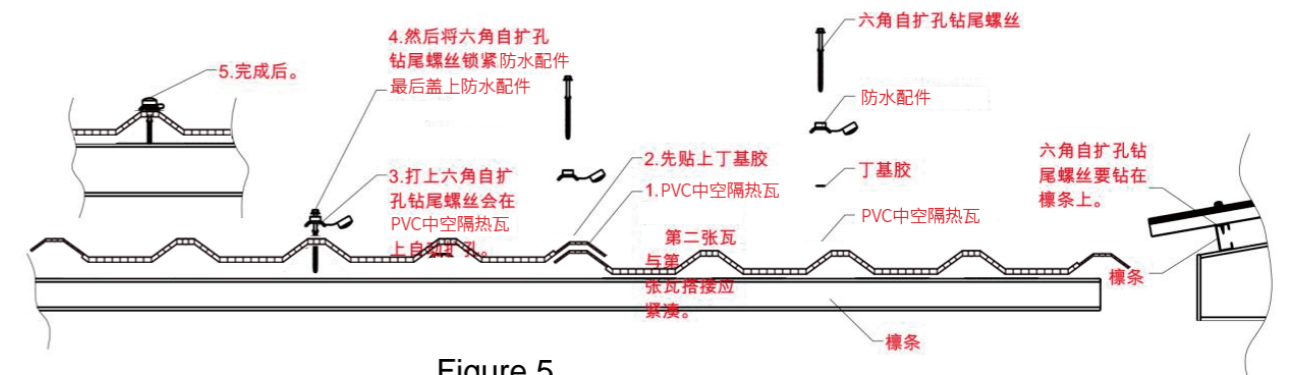

Figure 5
- When installing the second tile, ensure that it overlaps tightly with the first tile, and that the gaps are tightly sealed. Also, check that the bottom edges of both tiles are perpendicular to the construction line. After confirming this, secure the tile to the lower purlin and the main wave crest. Install the third and fourth tiles in the same way. After the fourth tile is installed, recheck the levelness, verticality, and tightness of the overlaps of all four tiles. Once confirmed, install all accessories and proceed with the installation in sequence (as shown in Figure 5).